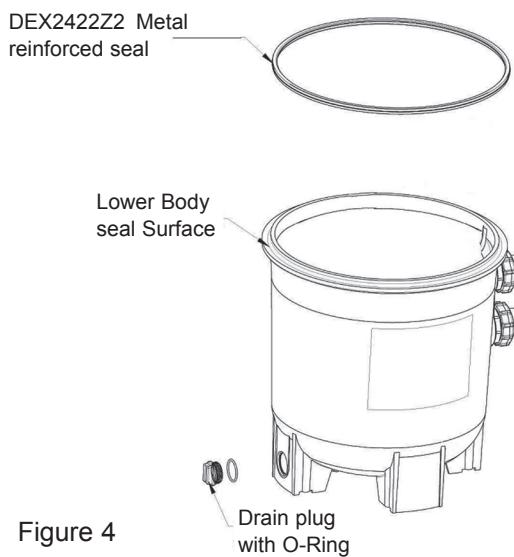

Figure 4
4. Remove filter drain plug (FIG 4) and drain water from filter.
2. With a clean cloth wipe the lower filter body seal surface. (Fig 4) Do not use a solvent.
1. Place the metal reinforced seal on the lower filter body (Fig 4).